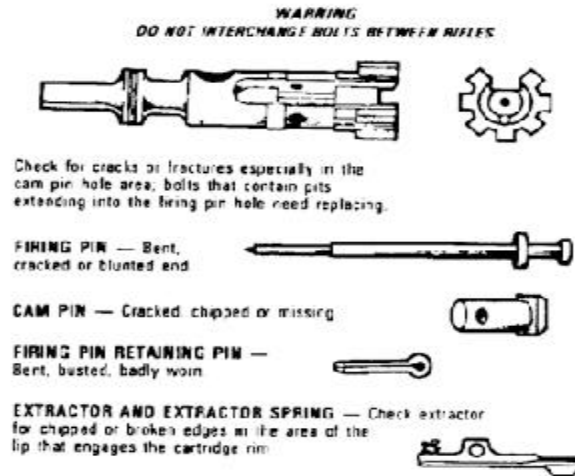

Figure E-23. Inspecting the bolt assembly.
4. Inspect disassembled rifle bolt assembly (figure E-23).